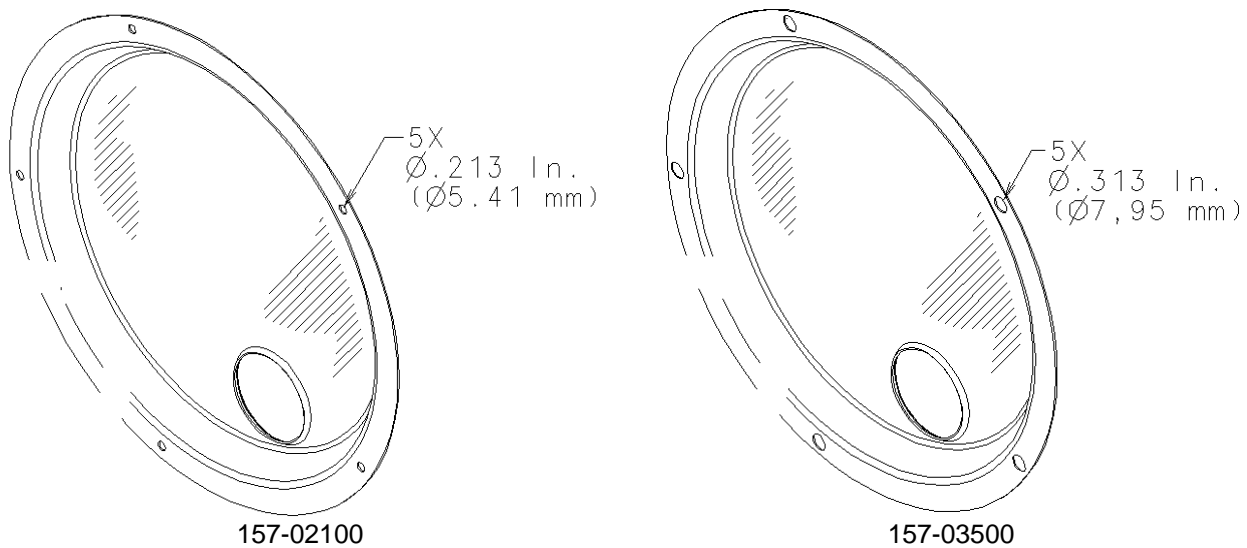
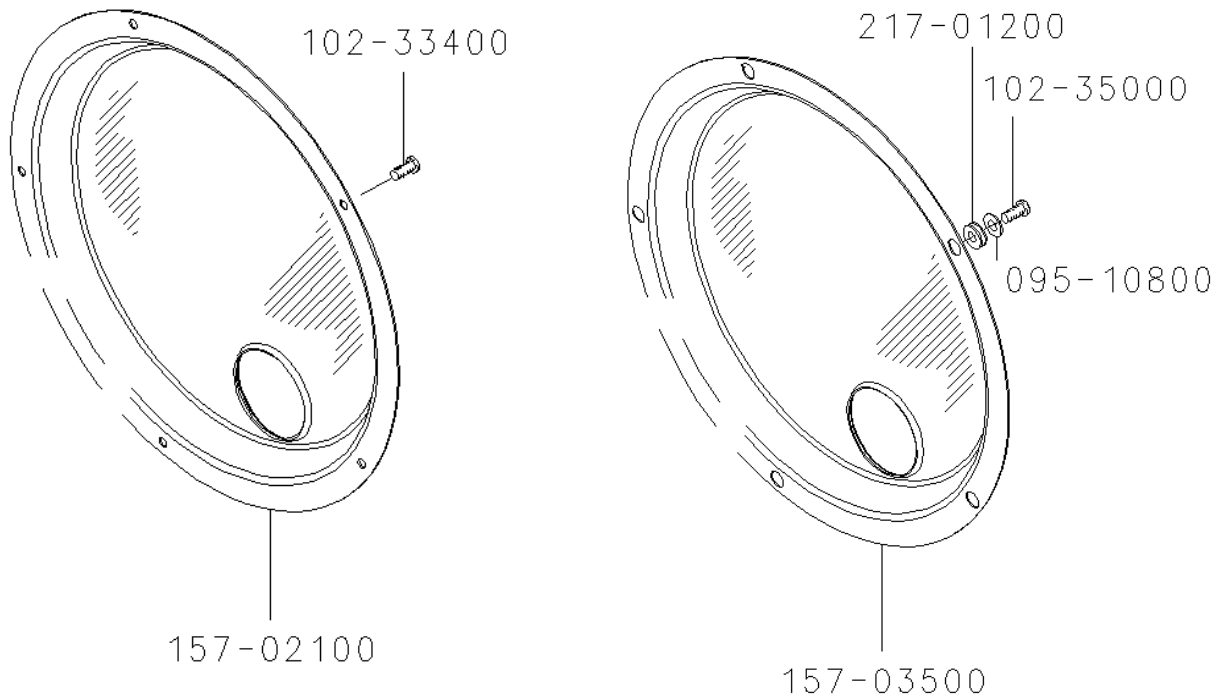

Figure 1
Figure 2 – Before (left) and After (right)
- 3) All 40-424 wheels verified as being equipped with the P/N 157-03500 or P/N 157-02100 with  $\varnothing.313$  mounting holes and fairing mounting hardware per kit SB7075-1 may be returned to service (ref. Figure 2 (after)).
- 4) For aircraft that are identified as being equipped with the 40-424 Main Wheel in the pre-SB7075 configuration (ref. Figure 2 (before)), remove the five fasteners which attach the fairing to the outboard wheel half, and measure wheel assembly fairing attachment fastener through holes (ref. Figure 1).
- 6) Using penetrant per Table 1 herein, examine fairing P/N 157-02100 for cracks. Fairings (P/N 157-02100) that are free from cracks may be reworked into the P/N 157-03500 configuration by enlarging the five mounting holes to  $\varnothing.313 +.005/-.002$  inches (ref. Figure 1). Replace all fairings that show evidence of cracks with new P/N 157-03500 fairings; contact Pilatus Business Aircraft, Broomfield, Colorado, or Parker Hannifin Aircraft Wheel & Brake Service Center for warranty replacement information.
- 7) Install Five Grommets (P/N 217-01200) Into Wheel Cover (P/N 157-03500 or P/N 157-02100 with  $\varnothing.313$  mounting holes). Apply MIL-T-83483 anti-seize to end of fasteners and threads of fasteners (102-35000). Install one washer (095-10800) onto each fastener (102-35000) (ref. Figure 2). **Caution: The fairing attachment fastener length is designed such that the fastener will bottom in the wheel before fully compressing the grommet.** Torque fastener (102-35000) to 20-25 In.-Lbs.